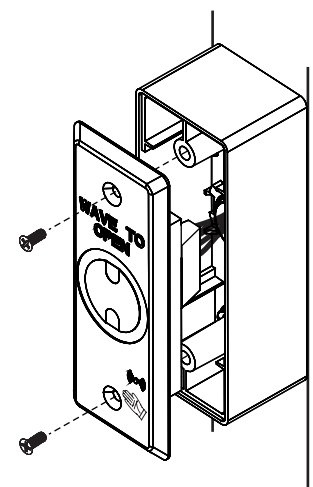

Figure 5
3. Attach Wave to Open switch to conduit housing using two (2) M3 x 8.3mm Philips Flat Head Machine screws. (Fig 5)